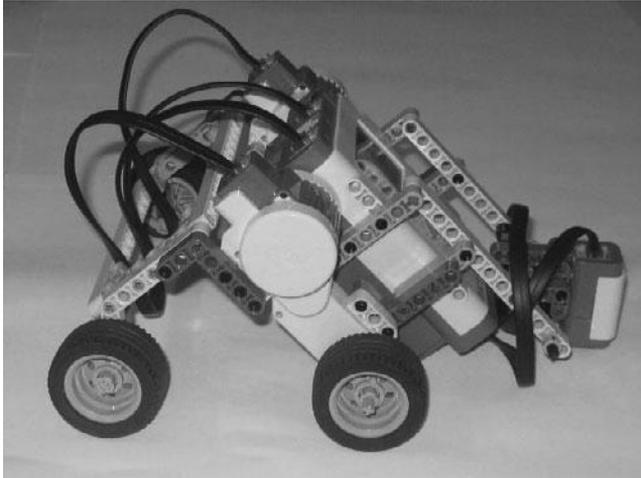

Figure 10.17
Step 2: In order to take advantage of its new sensor assembly attachment, the color sensor must be connected to the NXT Brick. Set this up by connecting the color sensor to the NXT Brick's number 3 port using a 35cm/14-inch cable, as shown in Figure 10.17.